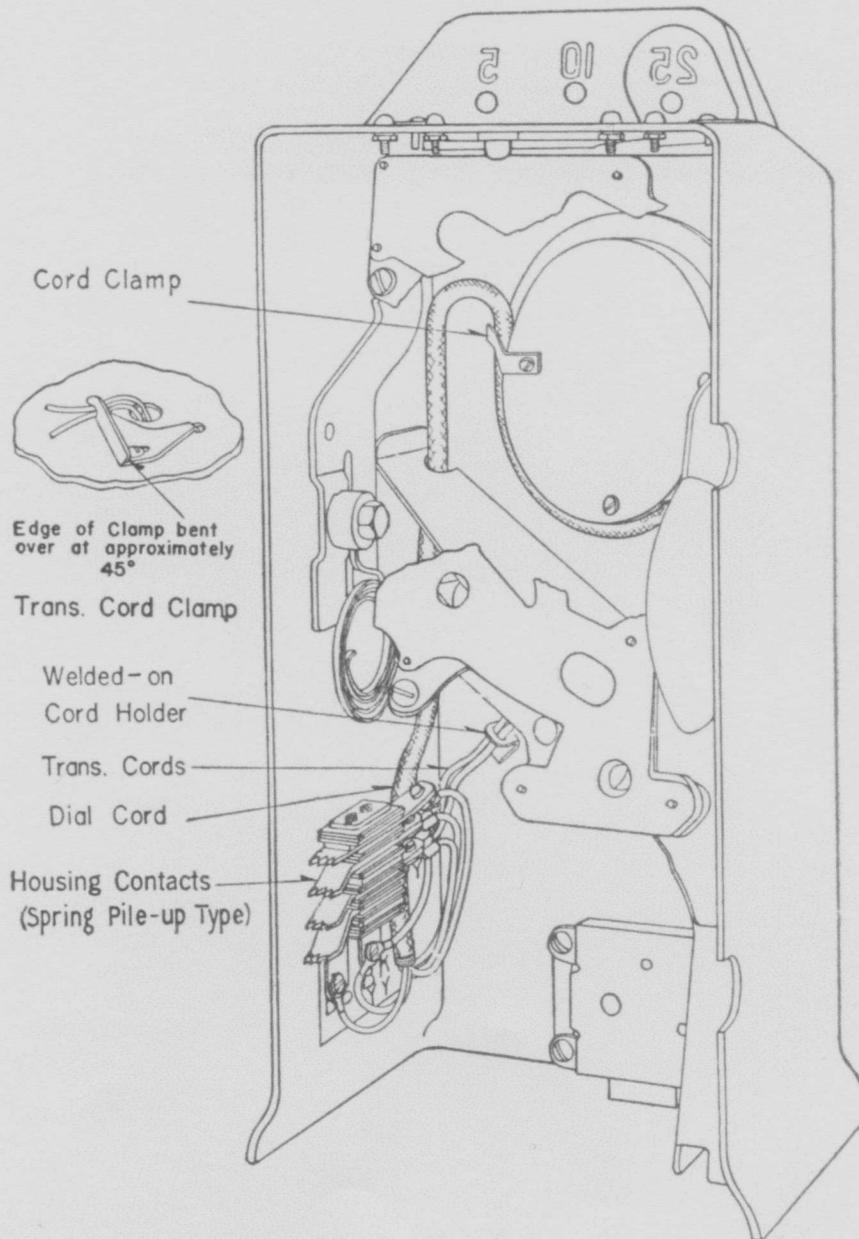

Fig. 8—50, 150, Earlier Style 161, 162, 163-type, D-96589, or D-96719 Coin Collector—Upper Housing
2.09 Dial cord shall be dressed as shown in Fig. 8. It is permissible to use cord clamp P-339764, or equivalent (modified P-297767). Cord shall be dressed against dial cup and as close to front of housing as practicable, with all slack taken upward. If cord is short and cannot be clamped as shown in Fig. 8, it is permissible to place P-339764 clamp under lower dial mounting screw.
2.11 That portion of dial cord below coin return chute shall be dressed into corner of housing with free conductors against side wall of housing behind terminals of spring pile-up-type housing contacts as shown in Fig. 8 or behind terminal plate-type housing contacts as shown in Fig. 14.
2.12 Transmitter cords shall be dressed as shown in Fig. 8. In early-type housings having a cast shelf (not shown in figures), no cord clamp is required.